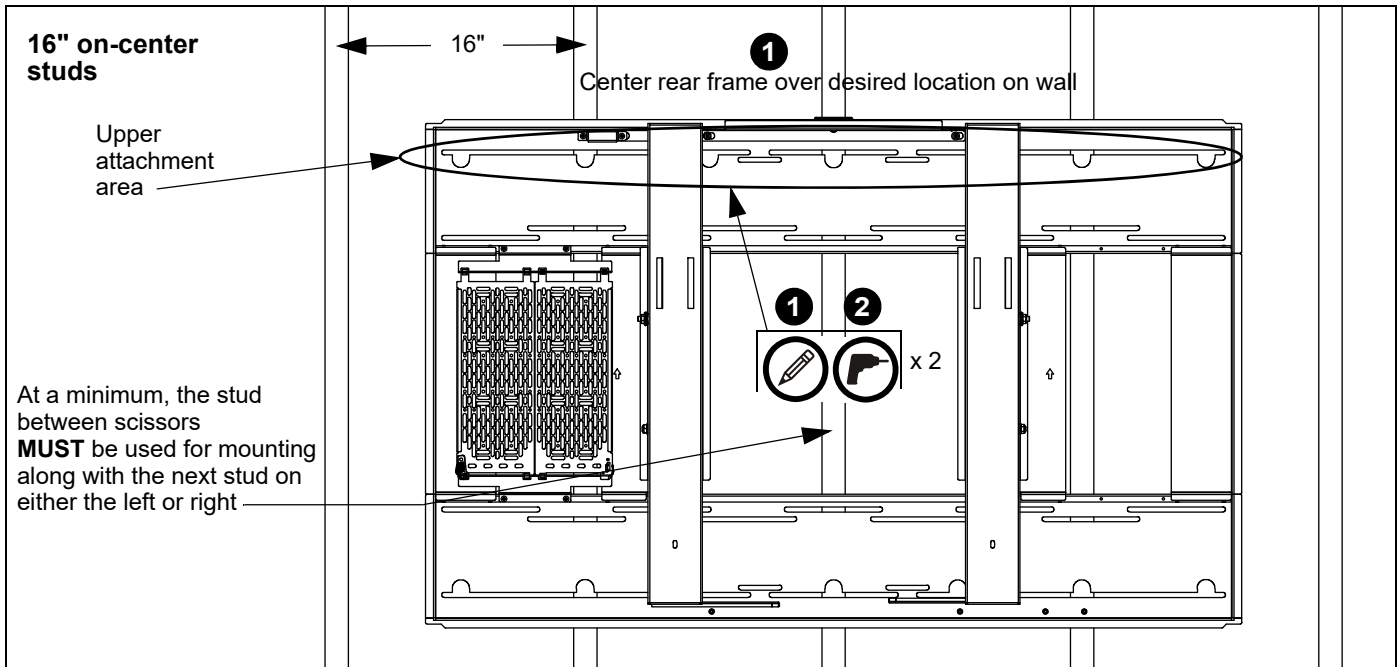
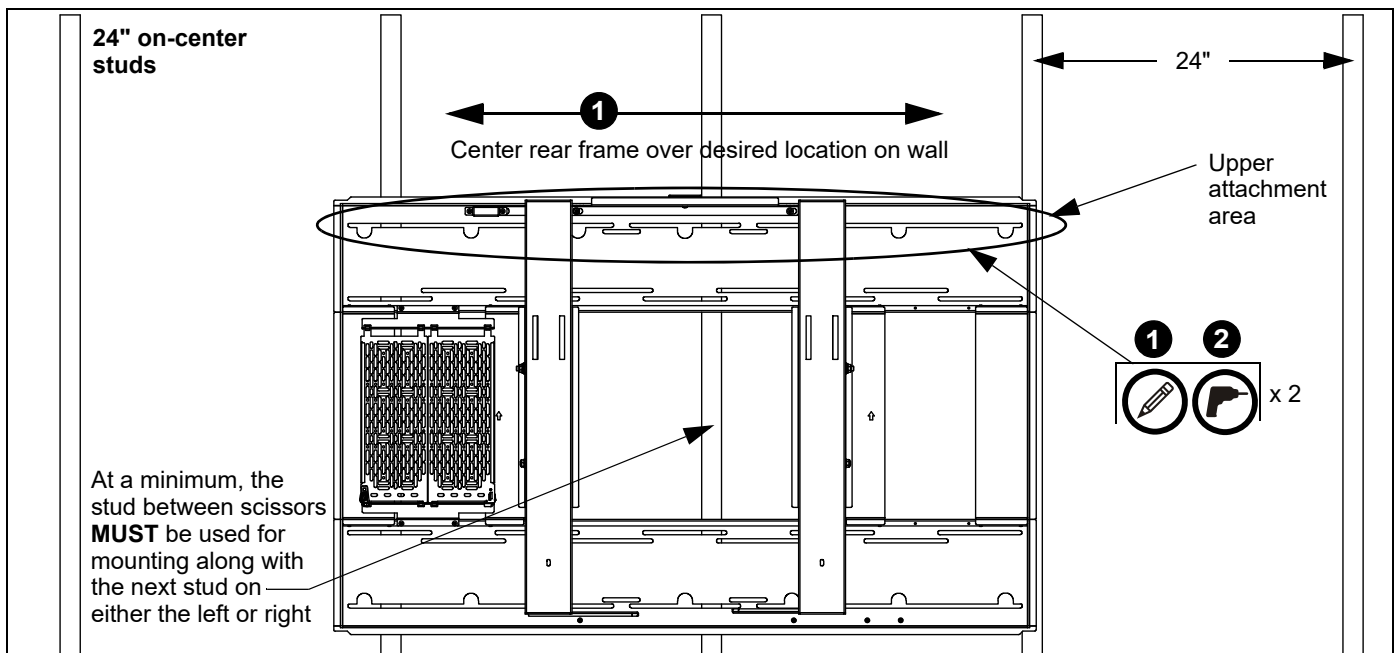
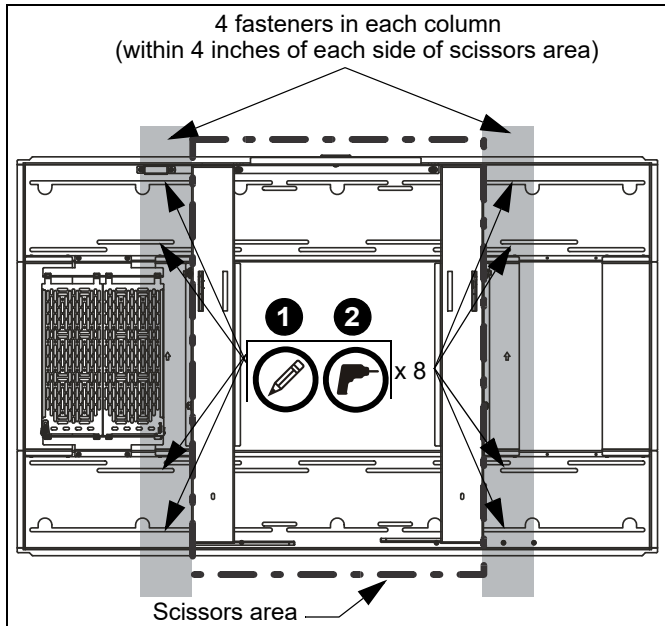

Figure 3
Figure 4
Figure 5
- The rear frame must be installed to a **MINIMUM** of two studs, one located between the scissors mechanism, and one to the next stud on either the left or right. (See Figure 3) and (See Figure 4).
- **For wood or steel stud walls**, use a level and mark the uppermost locations over studs for attachment a minimum of 16" apart and a maximum of 24" apart. (See Figure 3) and (See Figure 4)
- **For concrete walls**, use a level and mark the eight locations for attachment in two columns, a column within 4 inches of each side of the scissors area. (See Figure 5)
2. Drill one pilot hole (see Table 1 for size) at top locations marked in Step 1 (See Figure 3), (See Figure 4) and (See Figure 5) and follow fastener information (appropriate for wall type) located in Table 1.